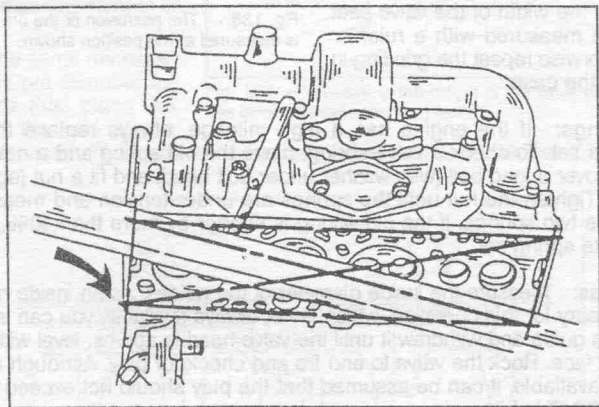

Fig. 1.38. — Checking the cylinder head gasket face for distortion.
**Cylinder Head:** Thoroughly clean the cylinder head surface and measure the surface for distortion. To do this, place a fine-edge steel ruler across the cylinder head face as shown in Fig. 1.38 and measure the gap between ruler and head with feeler gauges. If a feeler gauge of more than specified in Section 1.4.0.0. (different for XUD11 and DK5 engines) can be inserted, replace the cylinder head. The cylinder head of any of the engines cannot be re-ground. Consult your Citroën Dealer if in doubt about the extent of the distortion. Note that the cylinder block can be re-faced — *not to be confused with re-facing the cylinder head face.*